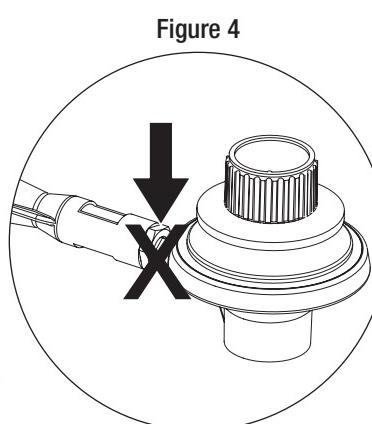

Figure 4
Make sure the regulator/control knob is securely fastened to the burner. (Figure 4)
3. Spoon several drops of solution, or use squirt bottle, at all "X" locations. (Figures 4 & 5)